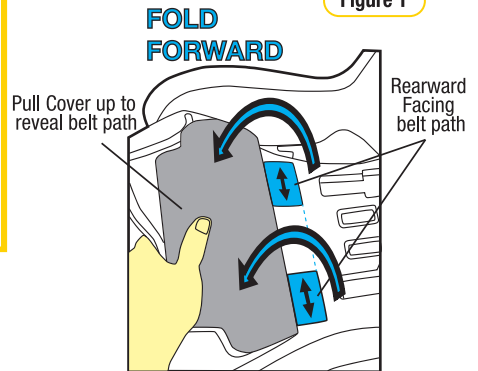

Figure 2
Step 3: Fold the cover and padding forward to expose the rearward facing belt path (refer Figure 2).